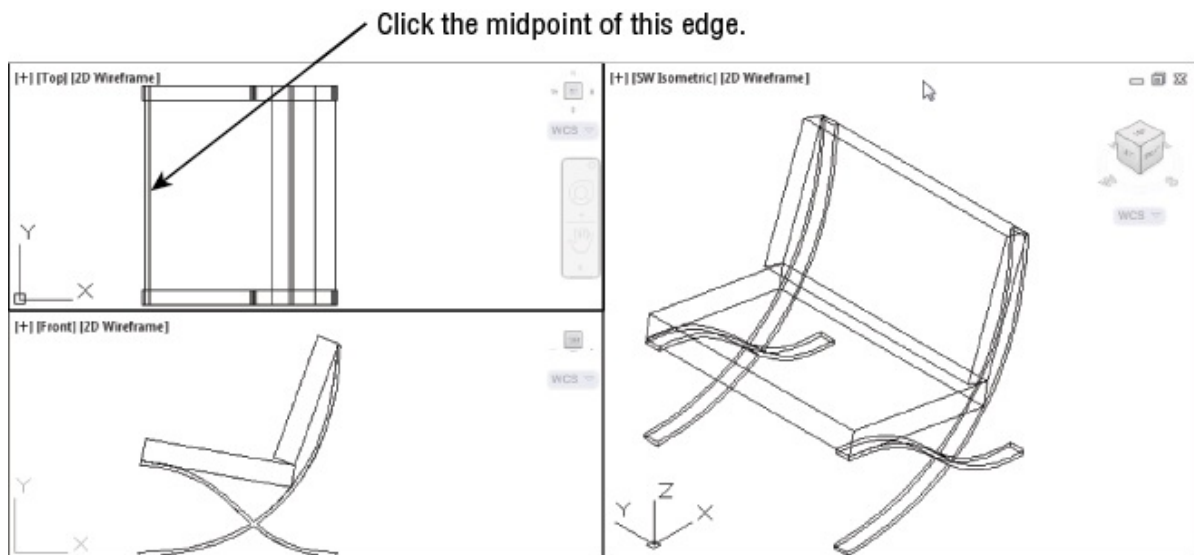

FIGURE 21.23 Mirroring the legs from one side to another
4. At the Specify first point of mirror line: prompt, use the Midpoint osnap and select the midpoint of the chair seat, as shown in Figure 21.23.
6. Press **↵** at the Erase source objects? [Yes/No] <N>: prompt. The legs are mirrored to the opposite side of the chair. Your screen should look similar to Figure 21.23.